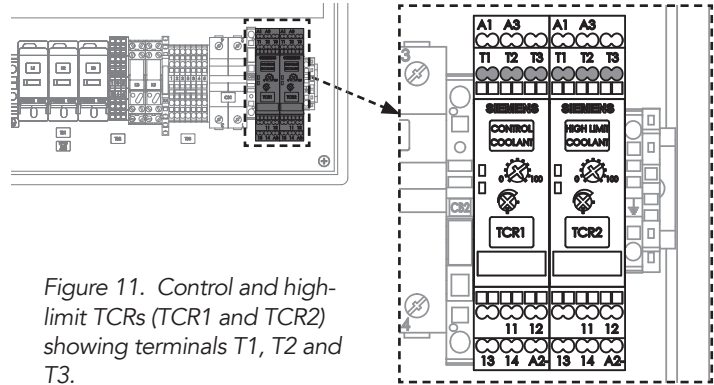

Figure 11. Control and high-limit TCRs (TCR1 and TCR2) showing terminals T1, T2 and T3.
3. Using the ohmmeter, measure the resistance between TCR terminals **T1** and **T2** (See Figure 11):
- If there **is no continuity** between TCR terminals **T2** and **T3**, locate connected RTD on the heating tank. Unscrew the RTD plug from RTD. See Table 1 and Figure 11, Figure 12 on the following page.